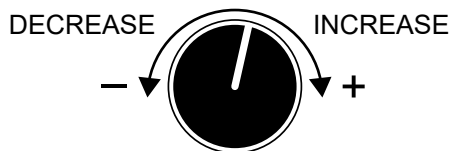

Figure 49. Voltage Regulator
5. If the voltage is not within the specified tolerance, use the voltage regulator (Figure 49) to increase or decrease the desired voltage.